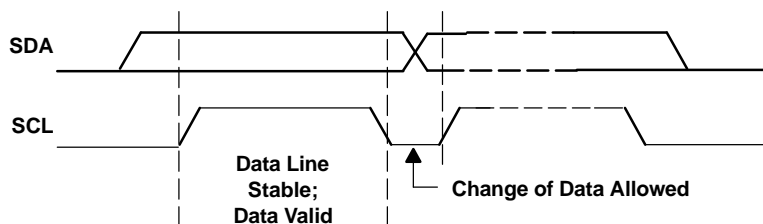
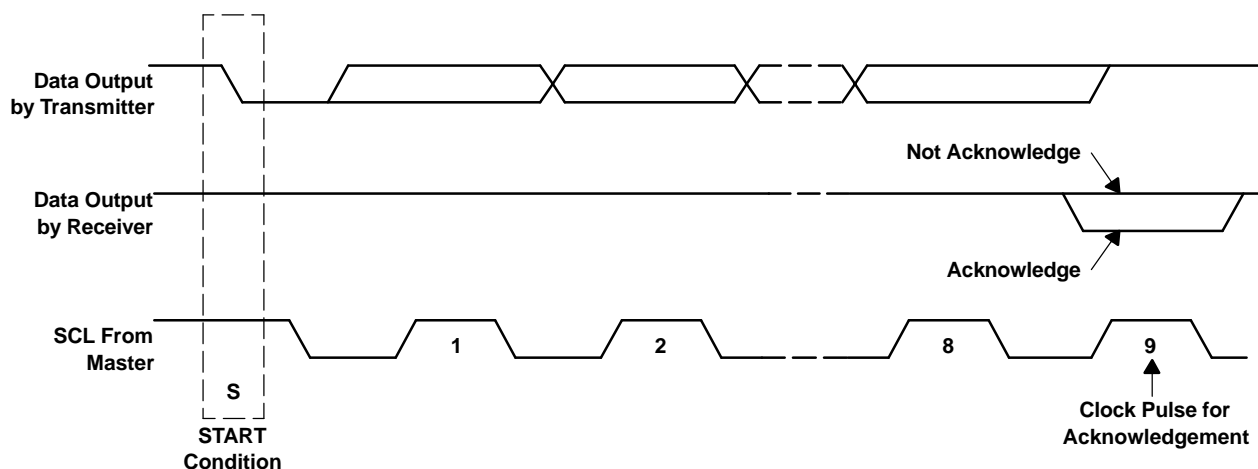

Figure 42. Bit Transfer on the I²C Bus
Figure 43. Acknowledge on the I²C Bus
- The master then generates the SCL pulses and transmits the 7-bit address and the *read/write direction bit* R/\overline{W} on the SDA line. During all transmissions, the master ensures that data is *valid*. A *valid data* condition requires the SDA line to be stable during the entire high period of the clock pulse (see Figure 42). All devices recognize the address sent by the master and compare it to their internal fixed addresses. Only the slave device with a matching address generates an *acknowledge* (see Figure 43) by pulling the SDA line low during the entire high period of the ninth SCL cycle. On detecting this acknowledge, the master knows that a communication link with a slave has been established.